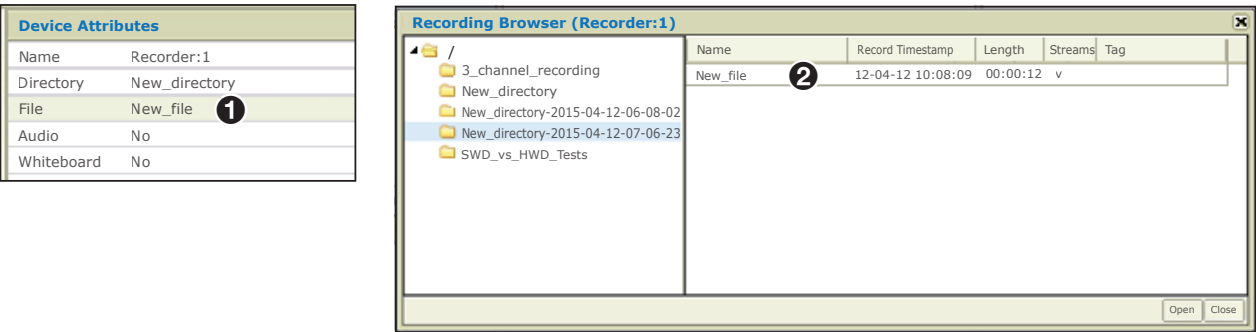

Figure 97. Create a File Using Direct Text Input
If a specific filename is desired, the name is entered in the **File** field (see figure 97, ❶), which then becomes the name of the file in the recording (❷).